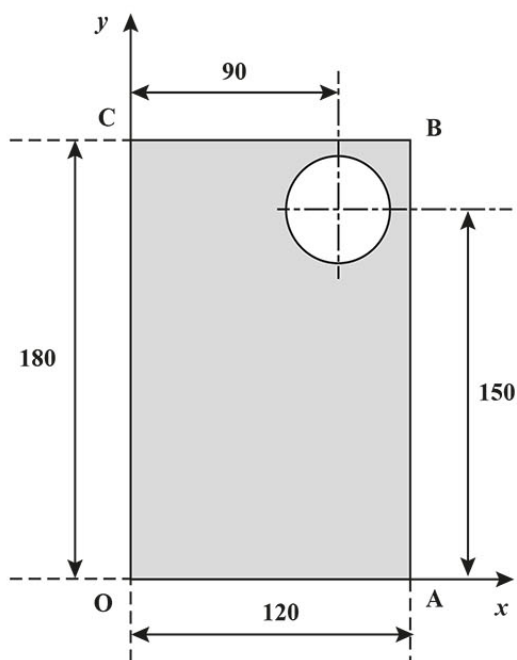

Fig. 5
- 4 (a) Fig. 5 shows a plate of uniform density aligned within a Cartesian coordinate system,  $(x, y)$ , with the origin at corner O. The plate has the shape of a rectangle, 120 mm wide and 180 mm long and contains a circular hole. The hole has a diameter of 40 mm with its centre at coordinates  $(90, 150)$ .